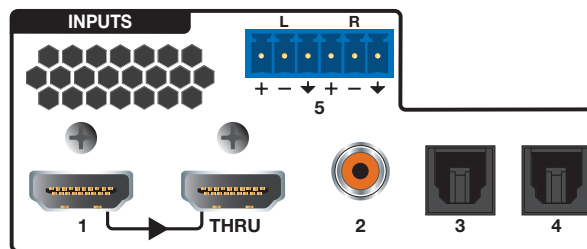

Figure 4. SSP 200 Audio Inputs
- B Audio inputs** — The SSP 200 accepts four digital inputs and one analog input (see figure 4).